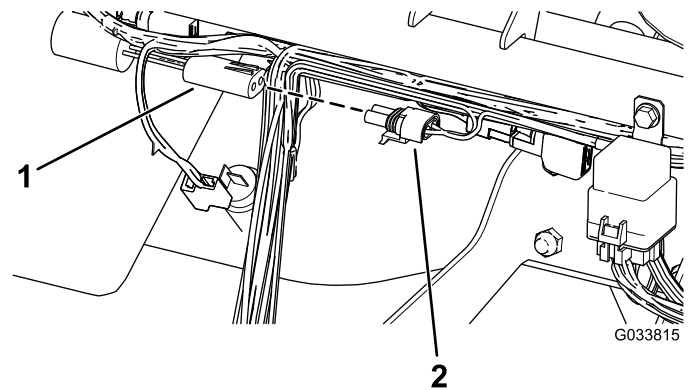

Figure 9
3. Connect the wire-harness connector labeled “one second delay timer” into the delay timer (Figure 9).